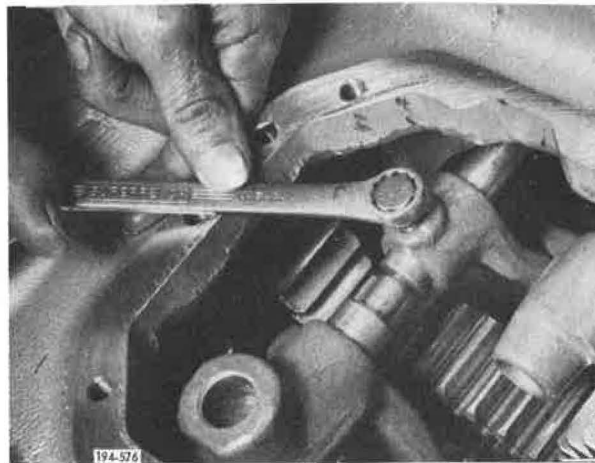

Figure 5-236. Removing Setscrew
15. Remove set-screws from first speed shift fork and second/third speed shift fork. See Figure 5-236.